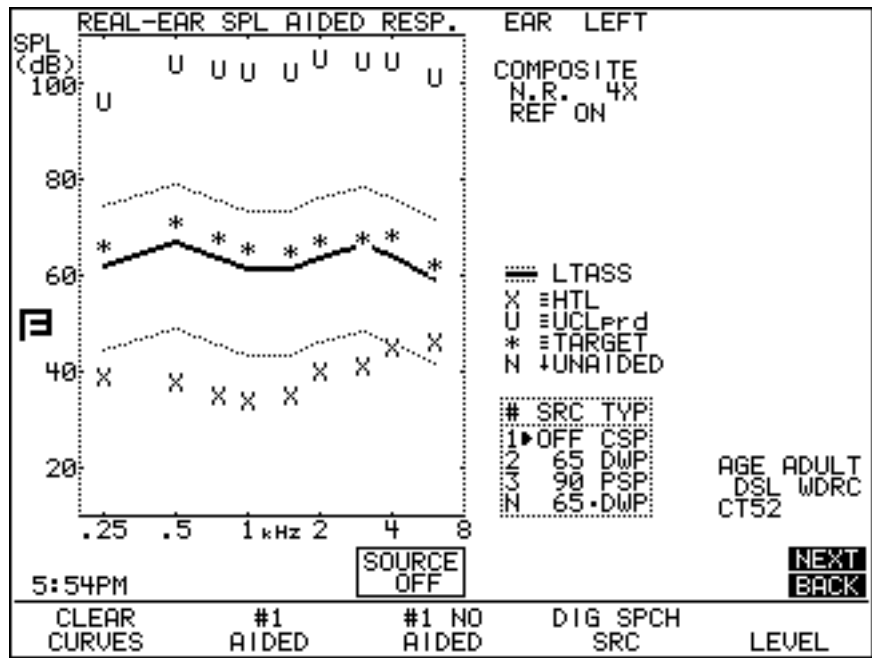

Figure 5.5.4—SPL Testing Screen with a DSL WDRC target and the LTASS speech banana.
- When DSL LIN or DSL WDRC is the fitting method, the FP35 will put three lines on the SPL Testing Screen, denoting the LTASS. Once a real-ear measurement is taken, these lines will disappear. See Figure 5.5.4.